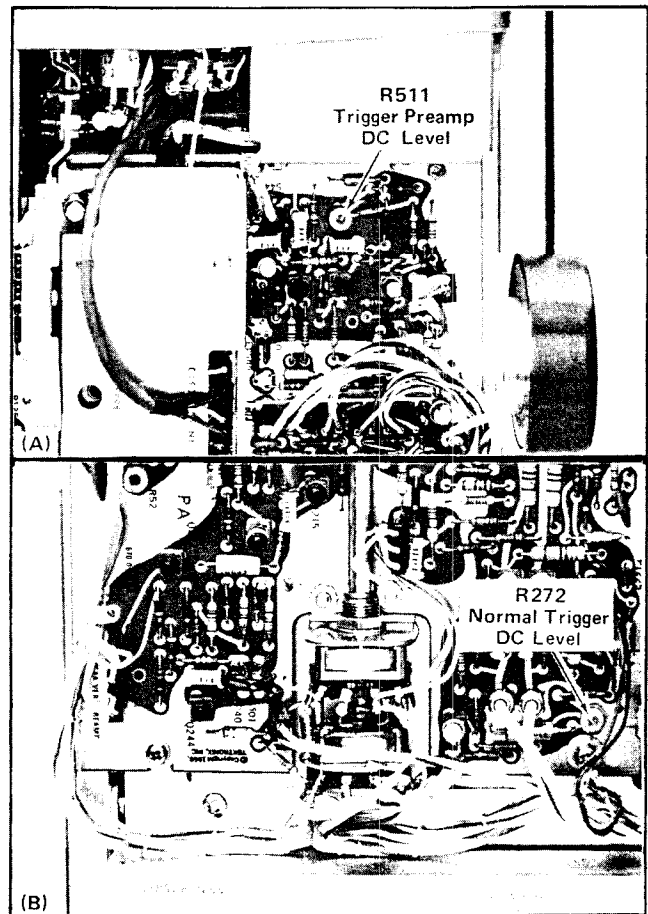

Fig. 5-15. (A) Location of Trigger Preamp DC Level and (B) Normal Trigger DC Level adjustments.
- d. ADJUST—Trigger Preamp DC Level adjustment, R511 (see Fig. 5-15) for a stable display.
- g. ADJUST—Normal Trigger DC Level adjustment, R272 (see Fig. 5-15) for a stable display.